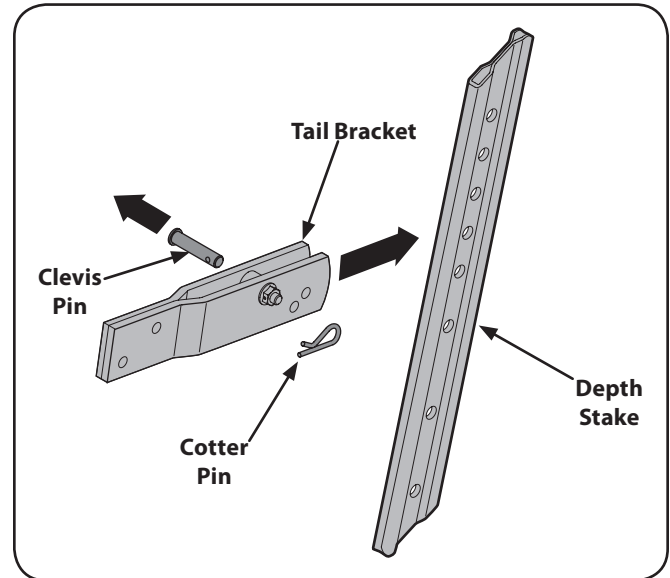

Figure 3-5
- Disassemble the depth gage assembly as seen in Fig. 3-5. Retain the pin and clip for later reassembly.